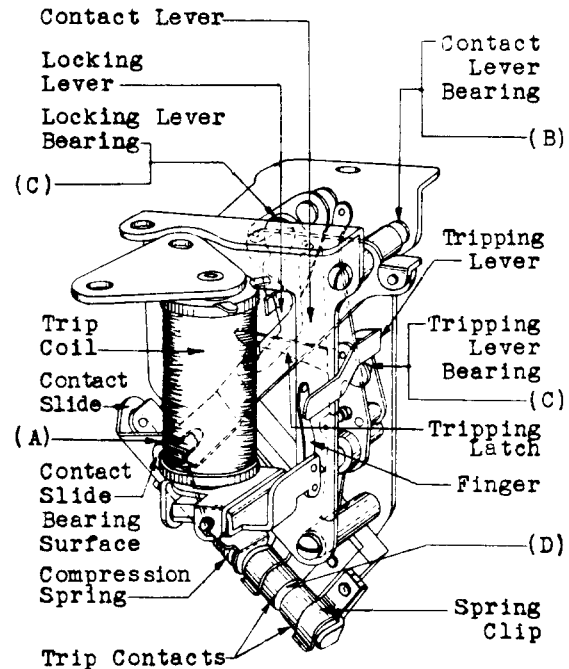

Fig. 4
Contact Slide Bearing Surfaces - Fig. 4 (A)
Contact Lever Bearings - Fig. 4 (B)
Tripping and Locking Lever Bearings - Fig. 4 (C)
*2.17 Contact Separation - Fig. 4 (D) - With the time stamp in the normal position, there shall be a separation between the trip contacts of Approx. 1/32". Gauge by eye.